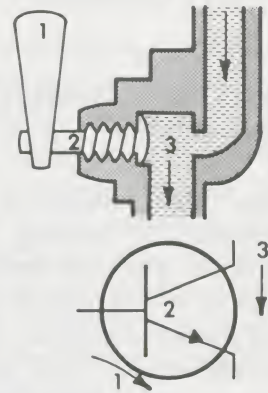

Figure 5.
A transistor operates much like a valve, as shown in Figure 5. A small current from the *base* (B) to the *emitter* (E) through the base-emitter junction can control relatively large currents from the *collector* (C) to the *emitter* through the collector-emitter junction. This feature of a small current controlling a large one is called *amplification*, and it is this property that makes transistors useful.*